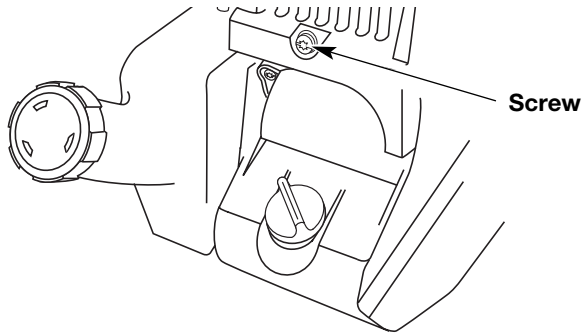

Fig. 24
2. Remove the screw behind the engine cover (Fig. 24).